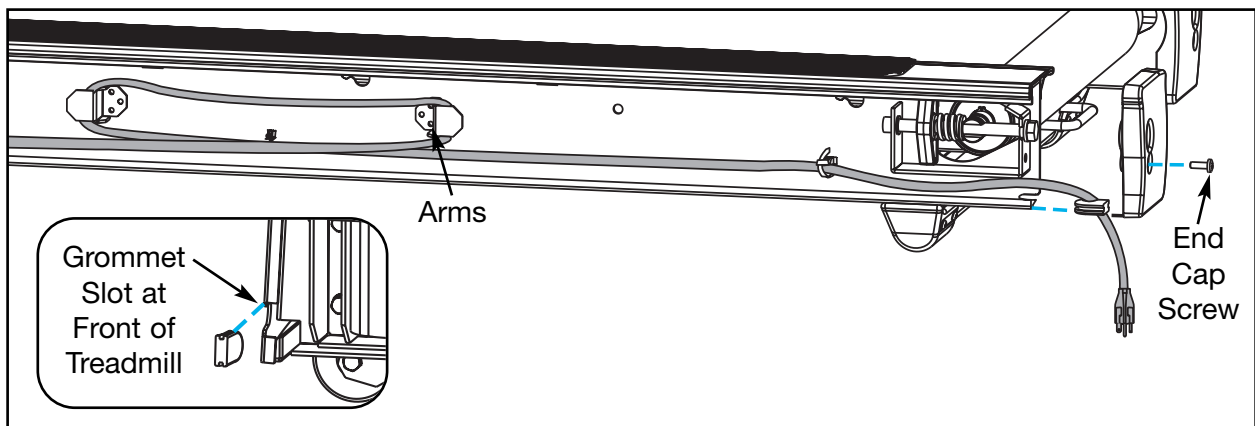

Figure 11
- d. Using a Phillips head screwdriver secure the left end cap. See Figure 11.
- B.** Wind the excess power cord onto the arms. See Figure 11.